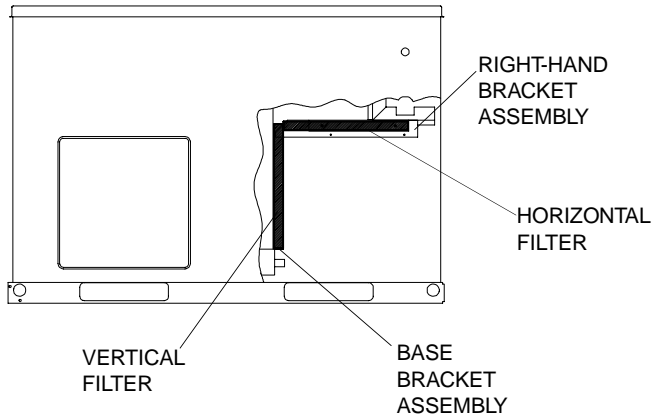

FIGURE 4 - VIEW FROM BACK OF UNIT
9. Place one filter into the base bracket assembly. Place the other filter into the left-hand bracket assembly, depress the foam, and place the other end of the filter into the right-hand bracket assembly. Insure the airflow direction arrows on the filter are in the correct direction and the horizontal filter is tight against the vertical filter. See Figure 4.